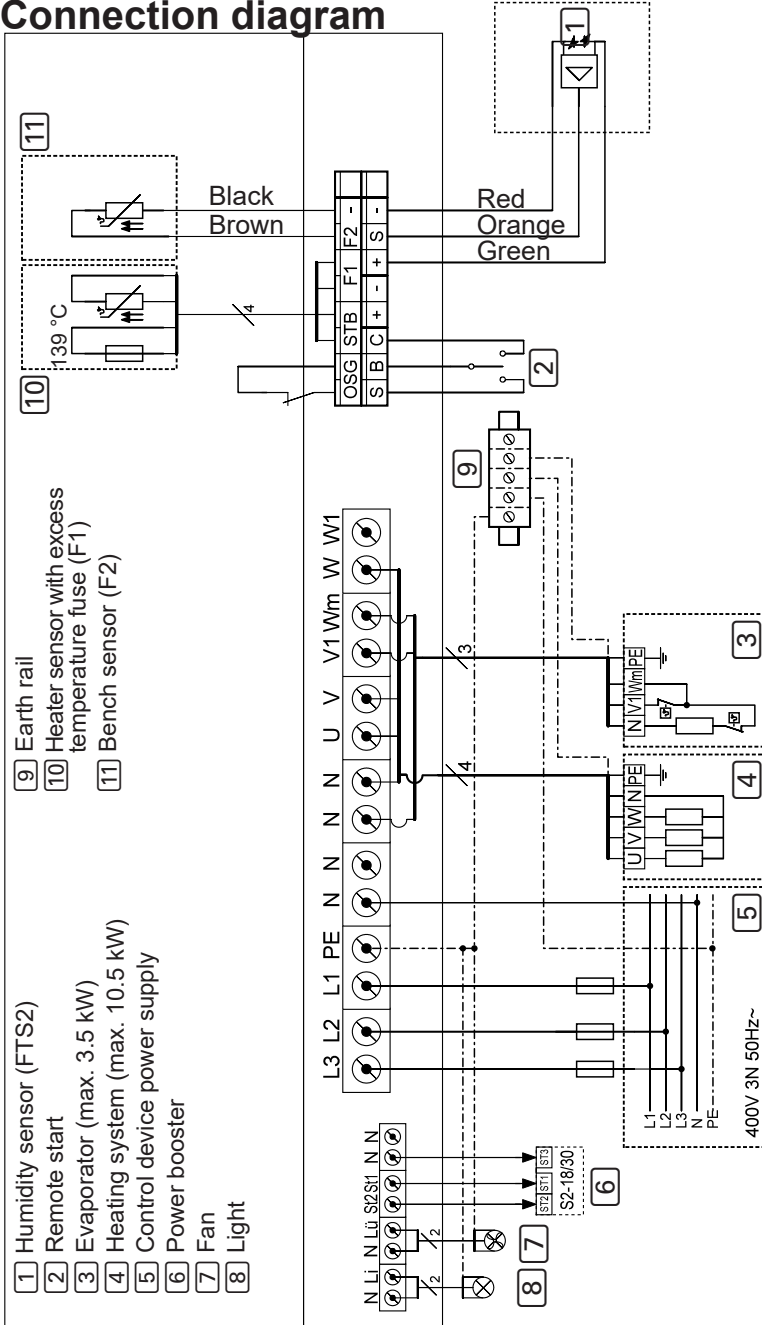

Fig. 4 Connection diagram
- Observe the connection diagram (**Fig. 4**) on page **23**.